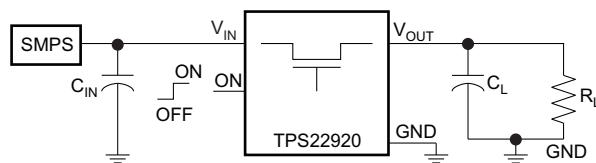

図 10. TPS22920 Simplified Application Circuit
The TPS22920 is a small, space-saving load switch with controlled turn-on to reduce inrush current (see 図 10). The device contains a N-channel MOSFET that can operate over an input voltage range of 0.75 V to 3.6 V and switch currents up to 4 A. An integrated charge pump biases the NMOS switch to achieve a minimum switch ON resistance (R_{ON}). The switch is controlled by an on/off input (ON), which is capable of interfacing directly with low-voltage control signals. The TPS22920 has a 1250- Ω on-chip resistor for quick output discharge when the switch is turned off, which ensures that the output is not left floating. The TPS22920 has an internally controlled rise time to reduce inrush current. The TPS22920 is available in an ultra-small, space-saving 8-pin CSP package.